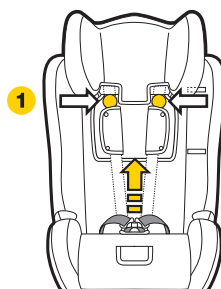

Figure 2
Step 1: Slide the cover up and over the plastic apron (refer Figure 2).